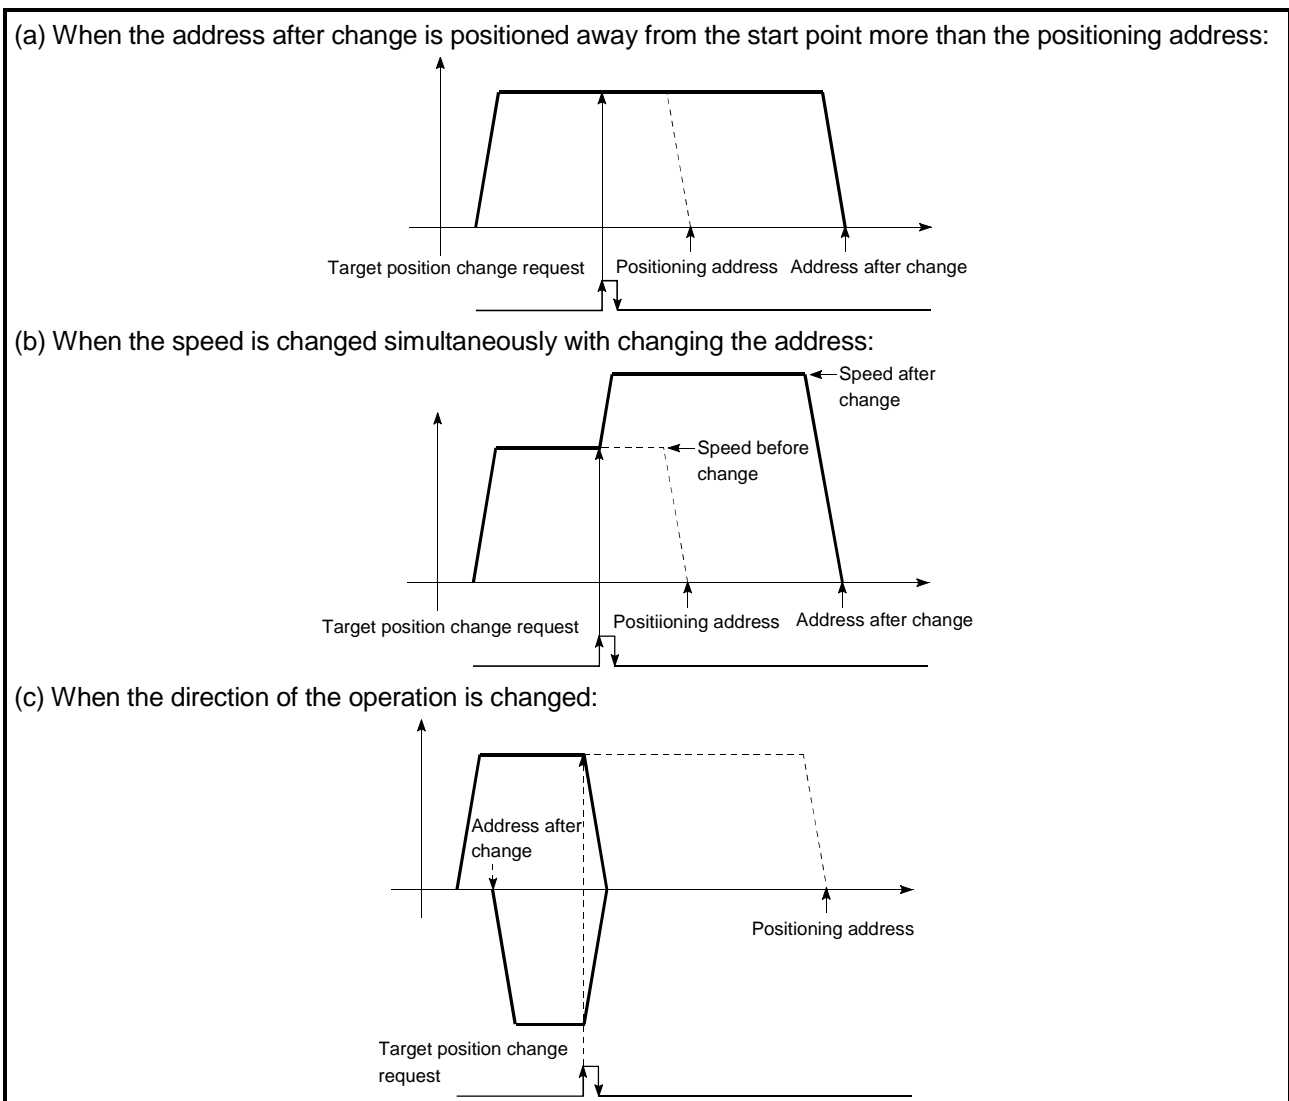

Fig. 12.41 Target position change operation
- (1) If the positioning movement direction from the stop position to a new target position is reversed, stop the operation once and then position to the new target position. (Refer to Fig. 12.41 (c).)
- (2) If a command speed exceeding the speed limit value is set to change the command speed, a warning will be given, and the new command speed will be the speed limit value (warning code: 501).